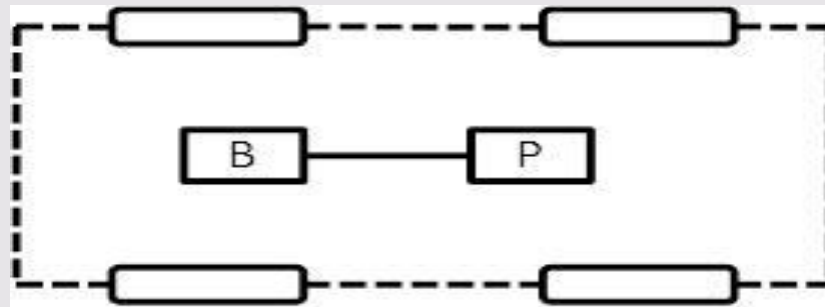

Figure 4a: EV configuration with battery source
- **Configuration 1:** It is a simple battery powered configuration, **Figure 4a**. The battery may be distributed around the vehicle, packed together at the vehicle back or located beneath the vehicle chassis. The battery in this case should have reasonable specific energy and specific power and should be able to accept regenerative energy during braking. In case of EVs, the battery should have both high specific energy and specific power because high specific energy governs the driving range while the high power density governs the acceleration rate and hill climbing capability.